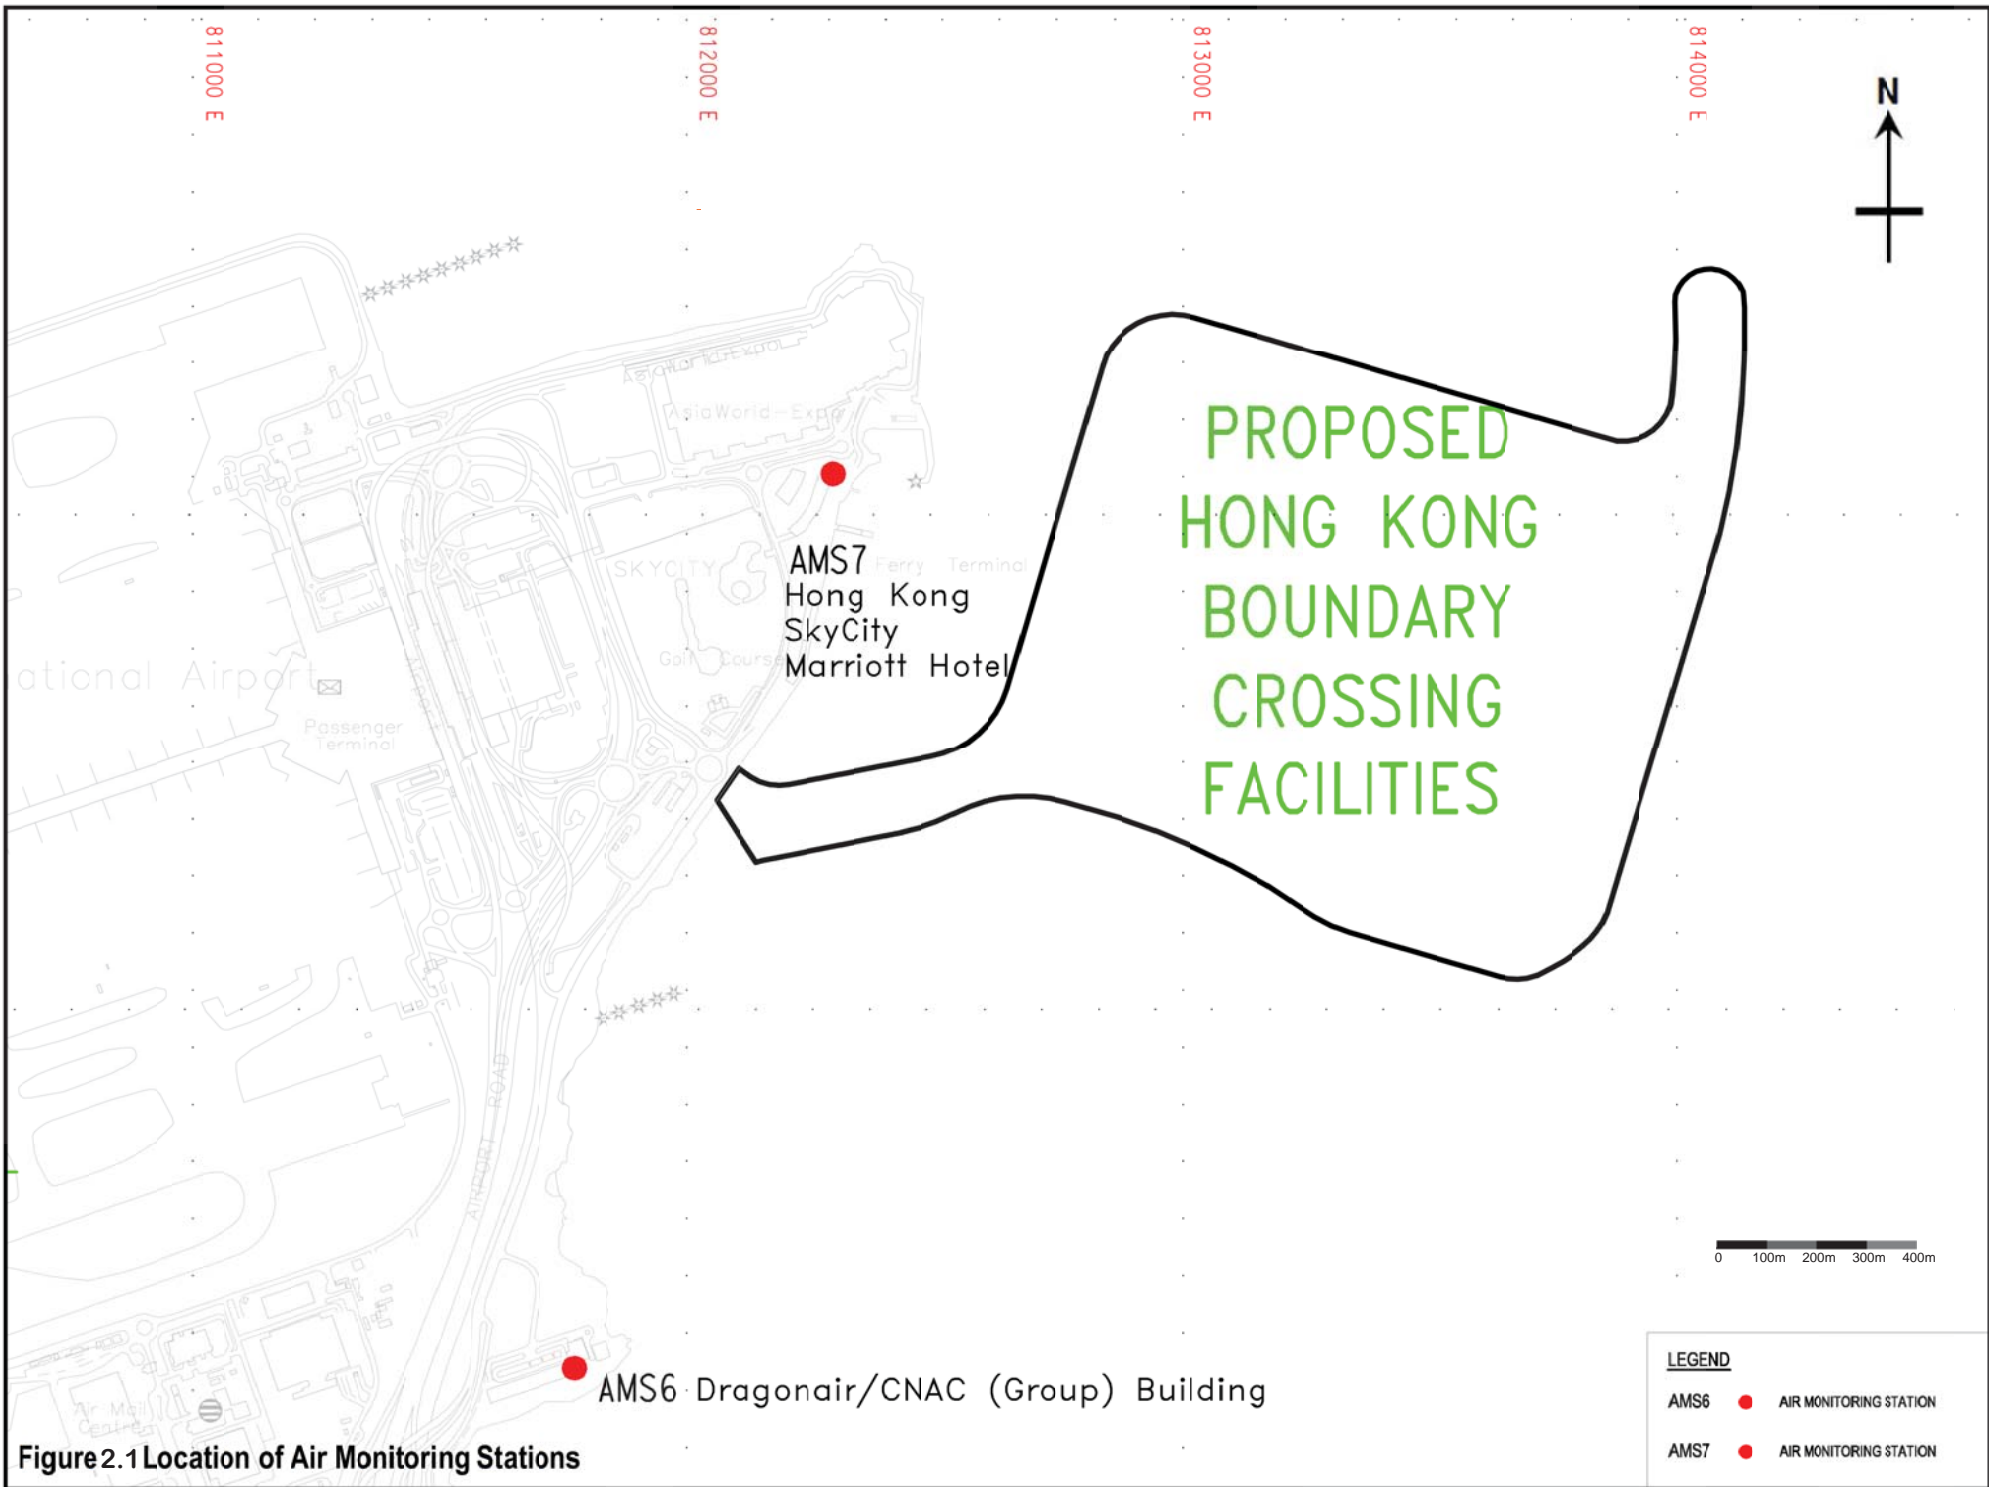

Figure 2.1 Location of Air Monitoring Stations
- 2.1.2 The ET of the Contract or another ET of the HZMB project is required to conduct air quality monitoring at AMS6 and AMS7 as part of EM&A programme if these air quality monitoring stations are no longer covered under Contract Nos. HY/2010/02 and HY/2011/03. **Figure 2.1** shows the locations of the air monitoring stations.